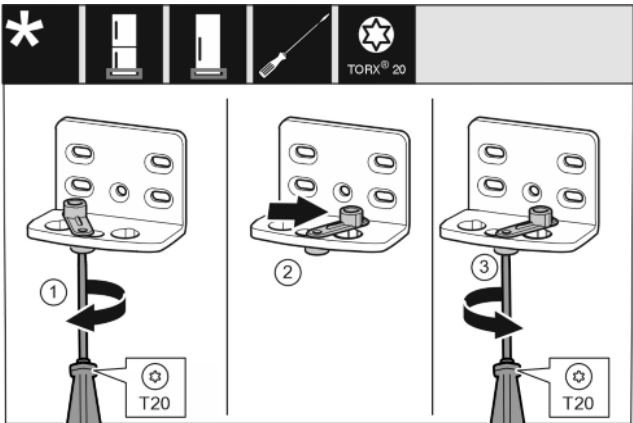

Fig. 14
- ▶ Loosen the screw using a T20 screwdriver. Fig. 14 (1)
- ▶ Lift the door closing aid and turn it 90° to the right in the hole. Fig. 14 (2)
- ▶ Tighten the screw using the T20 screwdriver. Fig. 14 (3)